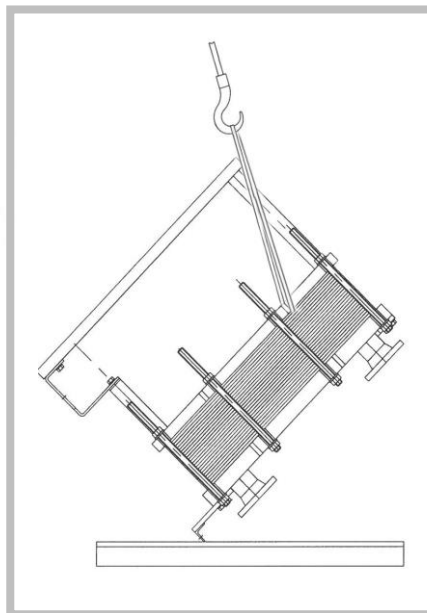

Figure 26
3. Slowly lift the PHE off the pallet with the help of the centre of gravity (Figure 26). Ensure that the lifting means are firm and secure within the suspension eyes.